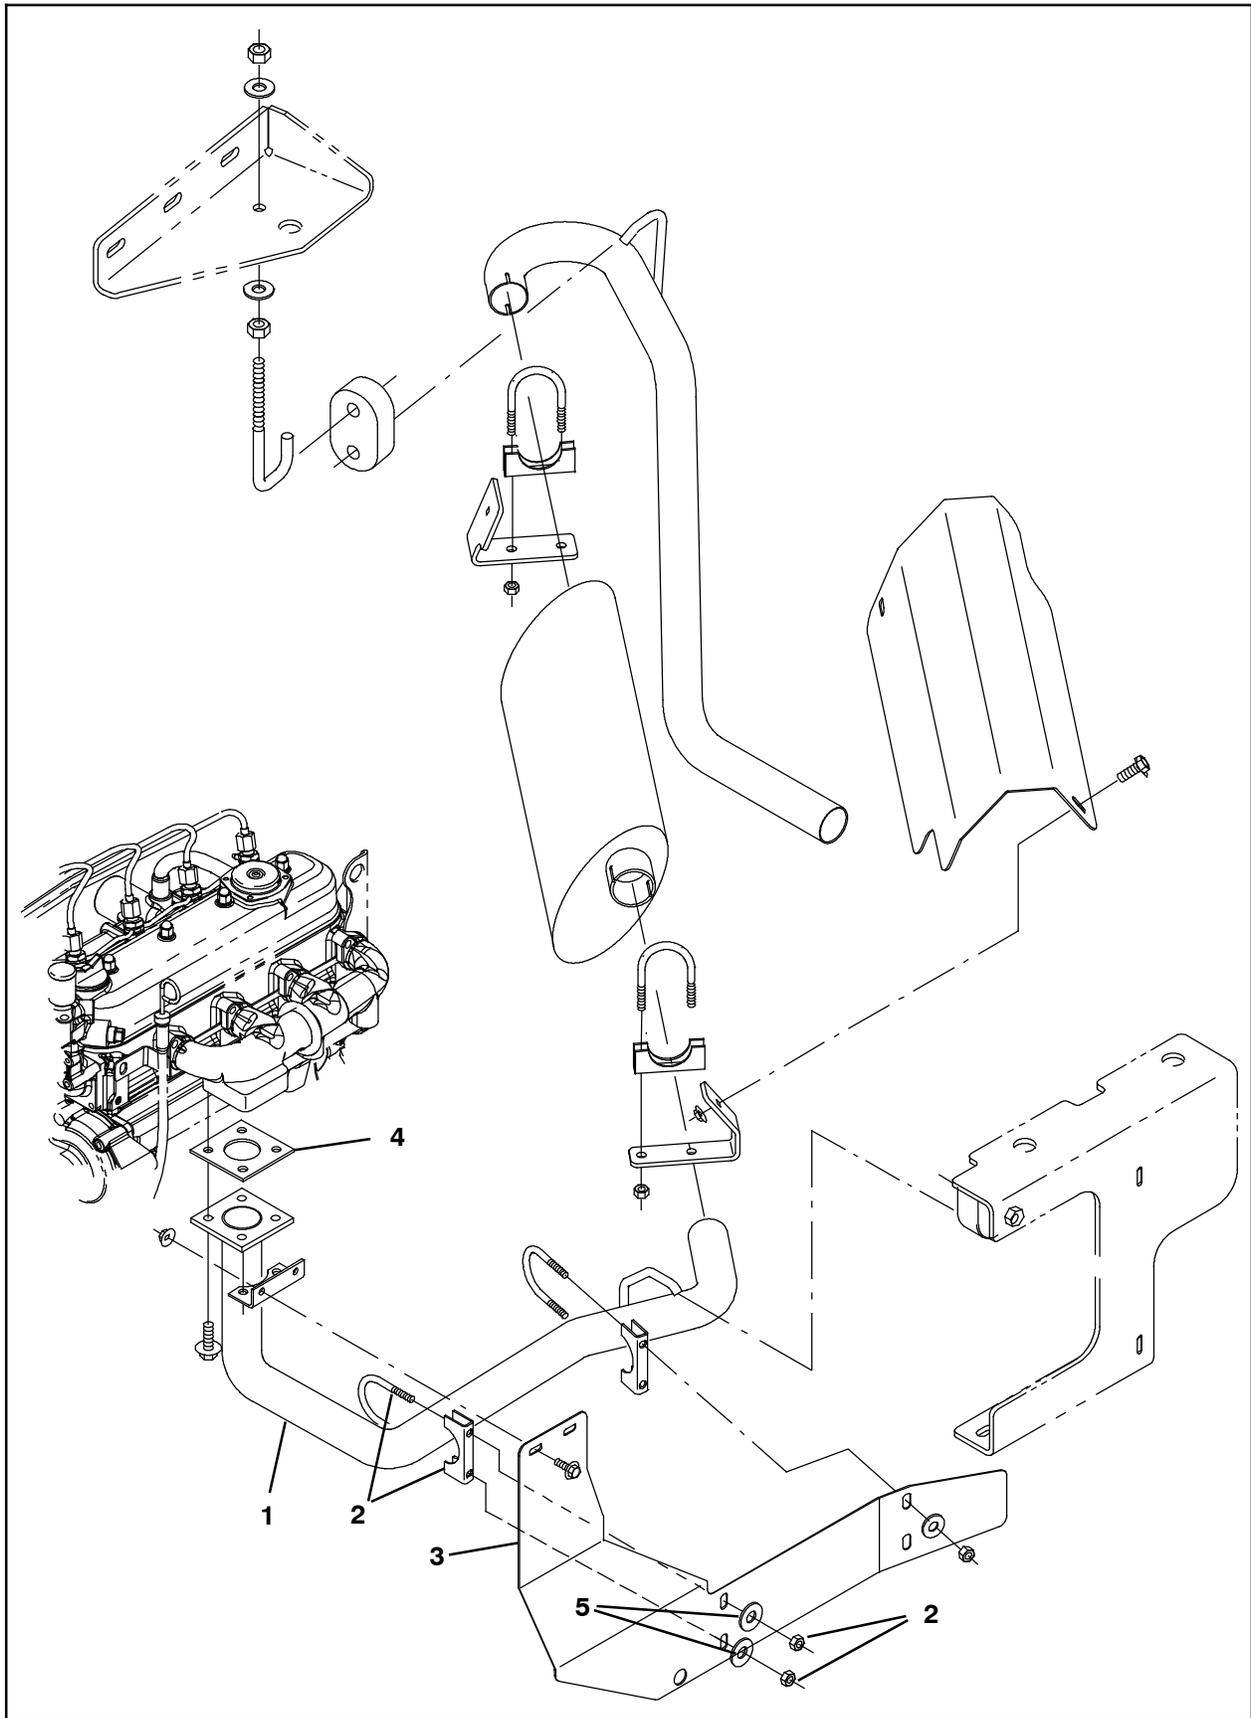

FIG. 2
2. Use the saved hardware to install the new gasket (4) and new exhaust tube (1) onto the engine manifold. (Fig. 2)
3. Reinstall the muffler / hardware onto the machine and secure the other end of the new exhaust tube (1) into the muffler assembly. (Fig. 2)
4. Use the saved muffler clamp, heat shield mounting bracket, and hardware, the new muffler clamp (2) and two flat washers (5) to install the new heat shield (3) onto the exhaust tube (1). (Fig. 2)